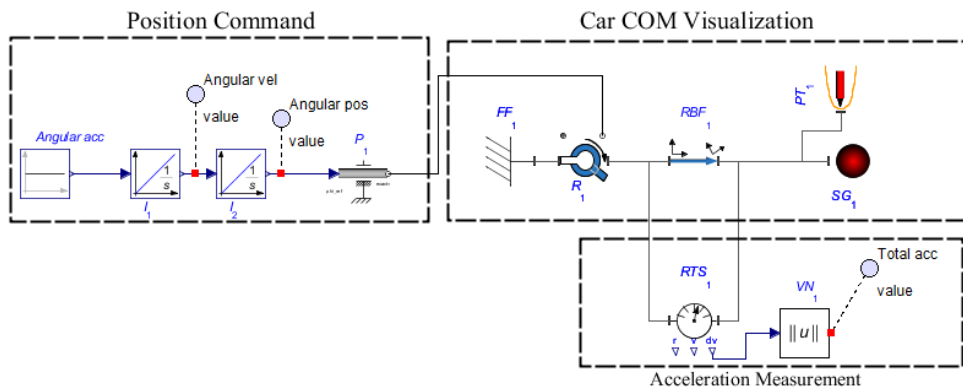

Fig 3: Component diagram
1. Place three **Probes** as shown in Fig. 3 and change the **Simulation duration** (t_d) to 2 seconds in the **Settings** pane.